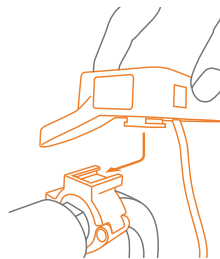

Figure 3: Attach the push support controller.
- a. Attach the push support controller **(Figure 3)**. A click can be heard when the correct position is reached.